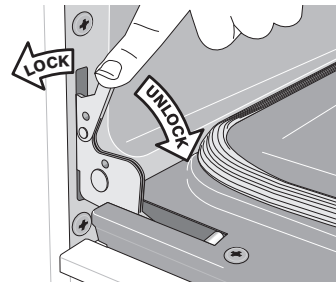

Figure 9: Door hinge locks
2. Pull the door hinge locks on both left and right door hinges down from the oven frame completely toward the oven door (See Figure 9). A tool such as a small flat-blade screwdriver may be required.
4. Push the door hinge locks up toward and into the oven frame on both left and right oven door hinges to the locked position (See Figure 9).